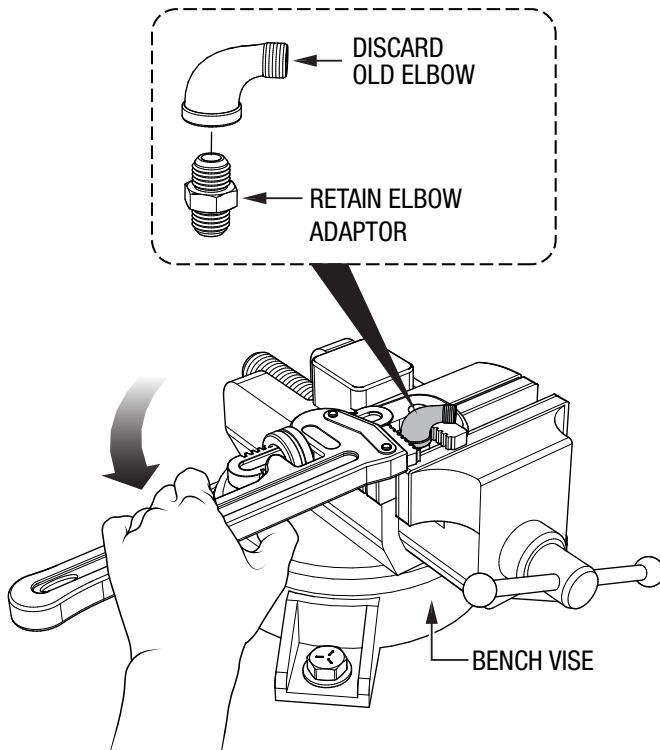

Figure 10. Elbow Adaptor Removal
4. Place the elbow in a bench vise as shown in Figure 10, and remove the elbow adaptor from the elbow. Retain the adaptor, and discard the elbow.